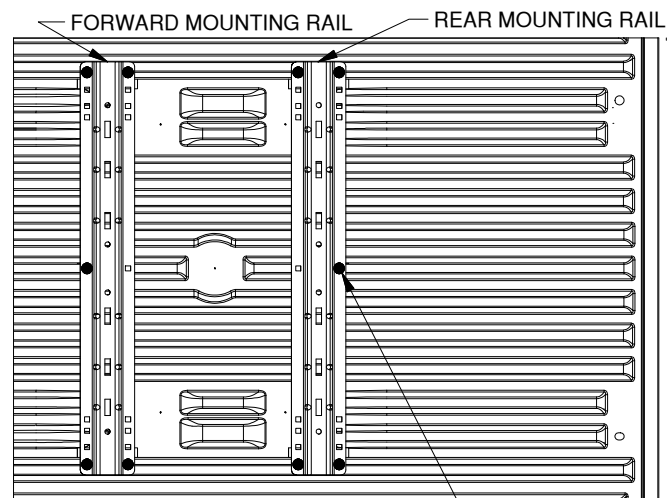

Figure A2: Detail view over bed, showing drill locations for the forward and rear bed rails.
- 2. Mark hole locations:** While carefully ensuring the mounting rail does not move, use a center punch tool to mark the 5 drill locations on the rear rail. See figure A2 for hole marking locations for this installation (forward rails will install on a later step). Once all 5 rear rail locations are clearly marked, move the bed rail out of the way and drill each location with an 1/8" drill.
3. **Drill forward mounting holes.** Using the same methods as used for the rear mounting rail, mark, drill, check, and enlarge the holes for the forward mounting rail. Refer to "DRILL REAR MOUNTING HOLES" section, steps 2 through 4, on a previous page. Notice that the hole locations are slightly different than the rear rail, see figure A2 (on the second page).